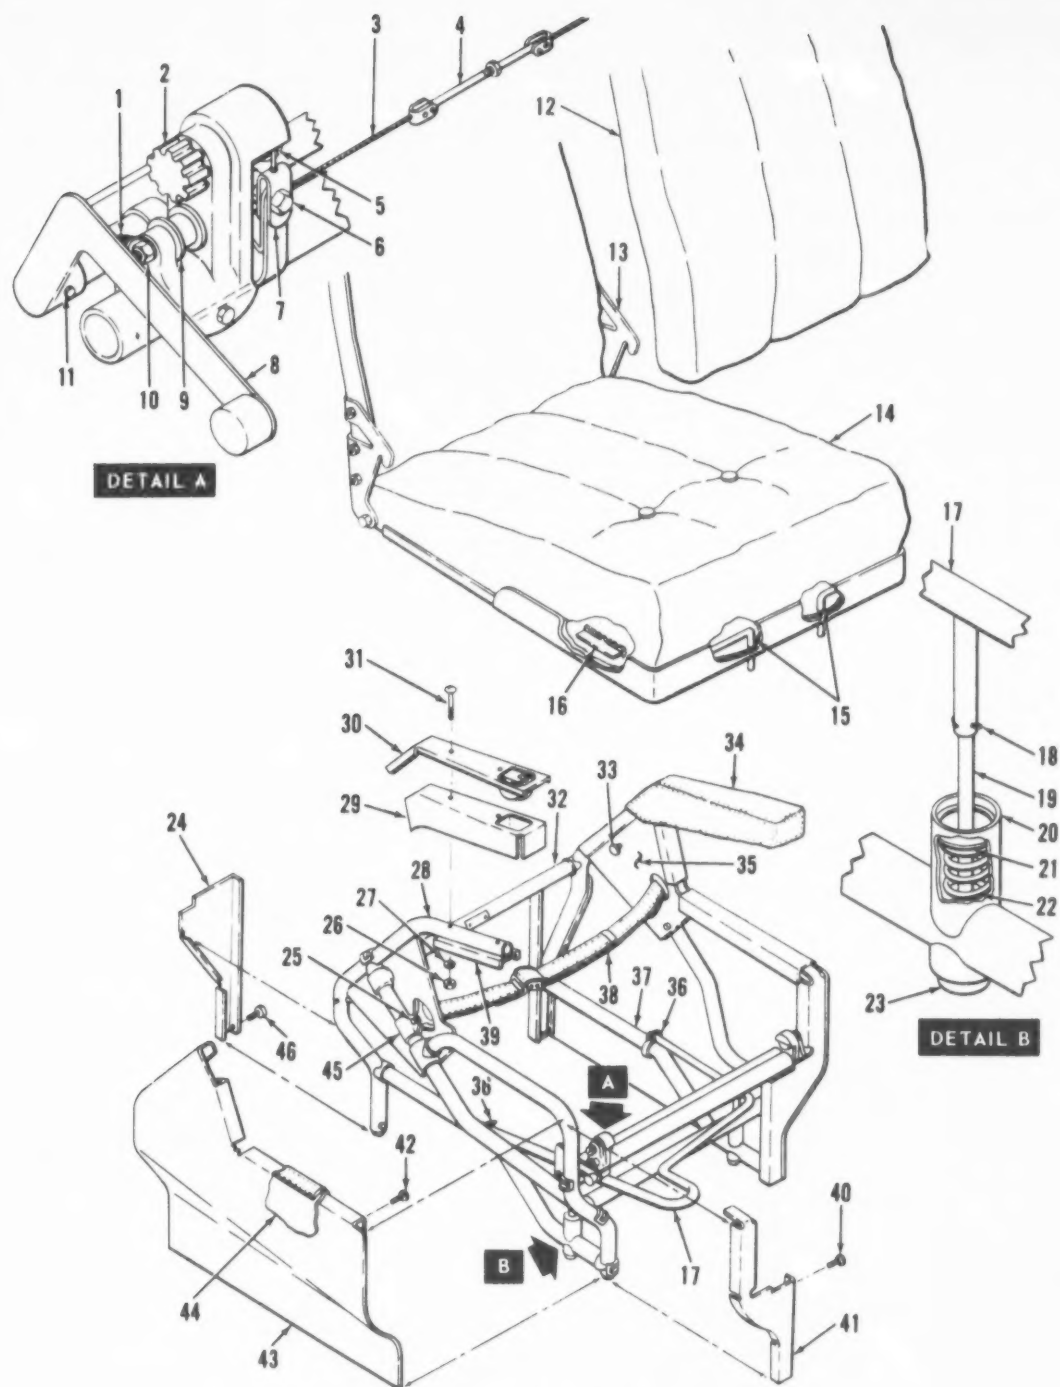

Figure 4-29. Passenger seat (U-8F) (sheet 1 of 2)
a. Removal. (1) Remove passenger seat from aircraft in accordance with paragraph 4-191.
(2) Remove seat cushion (14, figure 4-29) from seat, unsnap cover, and remove cushion.
(3) Slide stop pins (15) inward, toward center of seat, and rotate pins downward to lock them in retracted position.
(4) Holding adjustment handle (8) up, push seat frame bottom fully aft to free seat tracks (16) from pinions (2) and roller (9).
(5) Using a screwdriver or similar tool, pry open seat catches (13).
(6) Lift seat catches (13) free of mounting pivots (33), and slide seat frame aft out of seat base.
(7) Unsnap back cushion cover to remove cover and cushion from seat frame.
(8) Slip upholstered cover off foam rubber back cushion and frame. Remove cushion from seat.
(9) Remove front base panel (41), side base panel (43), and rear base panel (24) by removing screws (40, 42, and 46).
(10) Pull glued edges of upholstery (44) loose from base panels and slip upholstery off panels (41, 43, and 24).
c. Inspection. (1) Inspect upholstery for fraying, cuts, tears, and broken stitching.
(2) Inspect foam rubber cushions for damage.
d. Installation. (1) Assemble front base panel (41, figure 4-29), side base panel (43), and rear base panel (24). Place upholstery (44) over assembled panels and secure edges of upholstery to panels with cement (item 76, table 1-8).
(2) Position panel assembly against seat base frame and secure with screws (40, 42, and 46).
(3) Sprinkle talc (item 54, table 1-8) inside of back cushion cover and over upper part of back cushion.
(4) Position back cushion against seat back and slip upholstered cover over cushion and back.
(5) Work out all wrinkles in cushion and cover, and straighten seams. Secure cover with snap fasteners.
(6) Slide seat base into seat frame (32) from the rear, so that seat catches (13) hook over mounting pivots (33).
(7) Lock stop pins (15) in retracted position.
(8) Holding adjustment handle (8) in up position, slide seat forward to engage seat tracks (16) between rollers (9) and pinions (2). A screwdriver can be used to help start pinions onto tracks.
(9) Release stop pins (15) by rotating them aft.
(10) Release adjustment handle (8).
(11) Apply talc (item 54, table 1-8) on seat cushion and inside seat cushion cover.